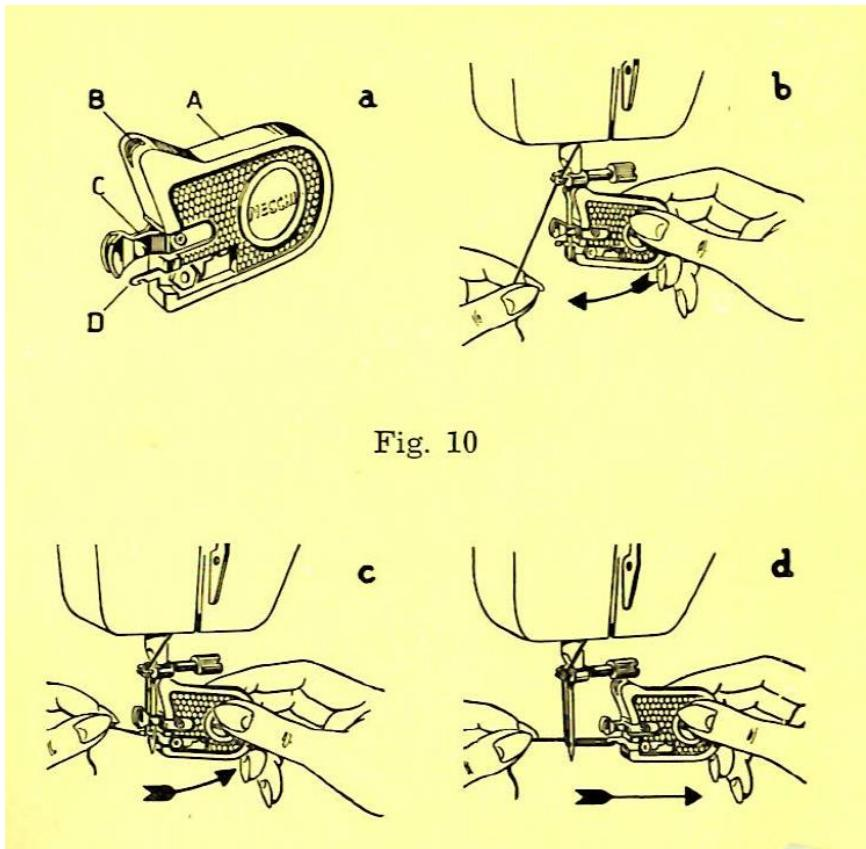

Figure 10
(see figure 10 a-d for reference)
- a) Take needle threader between thumb and forefinger of right hand (Figure 10b) and place it against needle so that needle fits in groove B (Figure 10 a) and uppermost portion of plastic body A touches the underside of needle clamp. Slip spring jaws C (figure 10a) over needle, then swing needle threader slightly against needle until threader hook D passes through the eye of the needle (Figure 10 b).
- b) With thumb and fore finger of left hand, pass thread under threader hook and hold it there under tension (figure 10 c)
- c) Gently swing needle threader upwards (see arrow in Figure 10 c) then draw it away from needle (figure 10 d). The threader hook will draw thread through eye of needle.